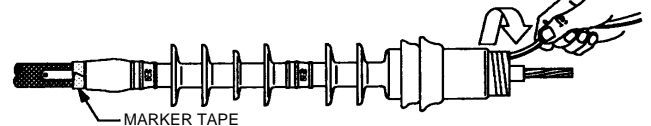

Figure 6
3. Slide the termination body onto the cable, aligning the base with previously applied marker tape (Figure 6).
starting with the loose end. Make sure the termination body is butted up to the edge of the marker tape (Figure 6). **TIP:** An occasional tug of the core strand while unwinding will aid in core removal.